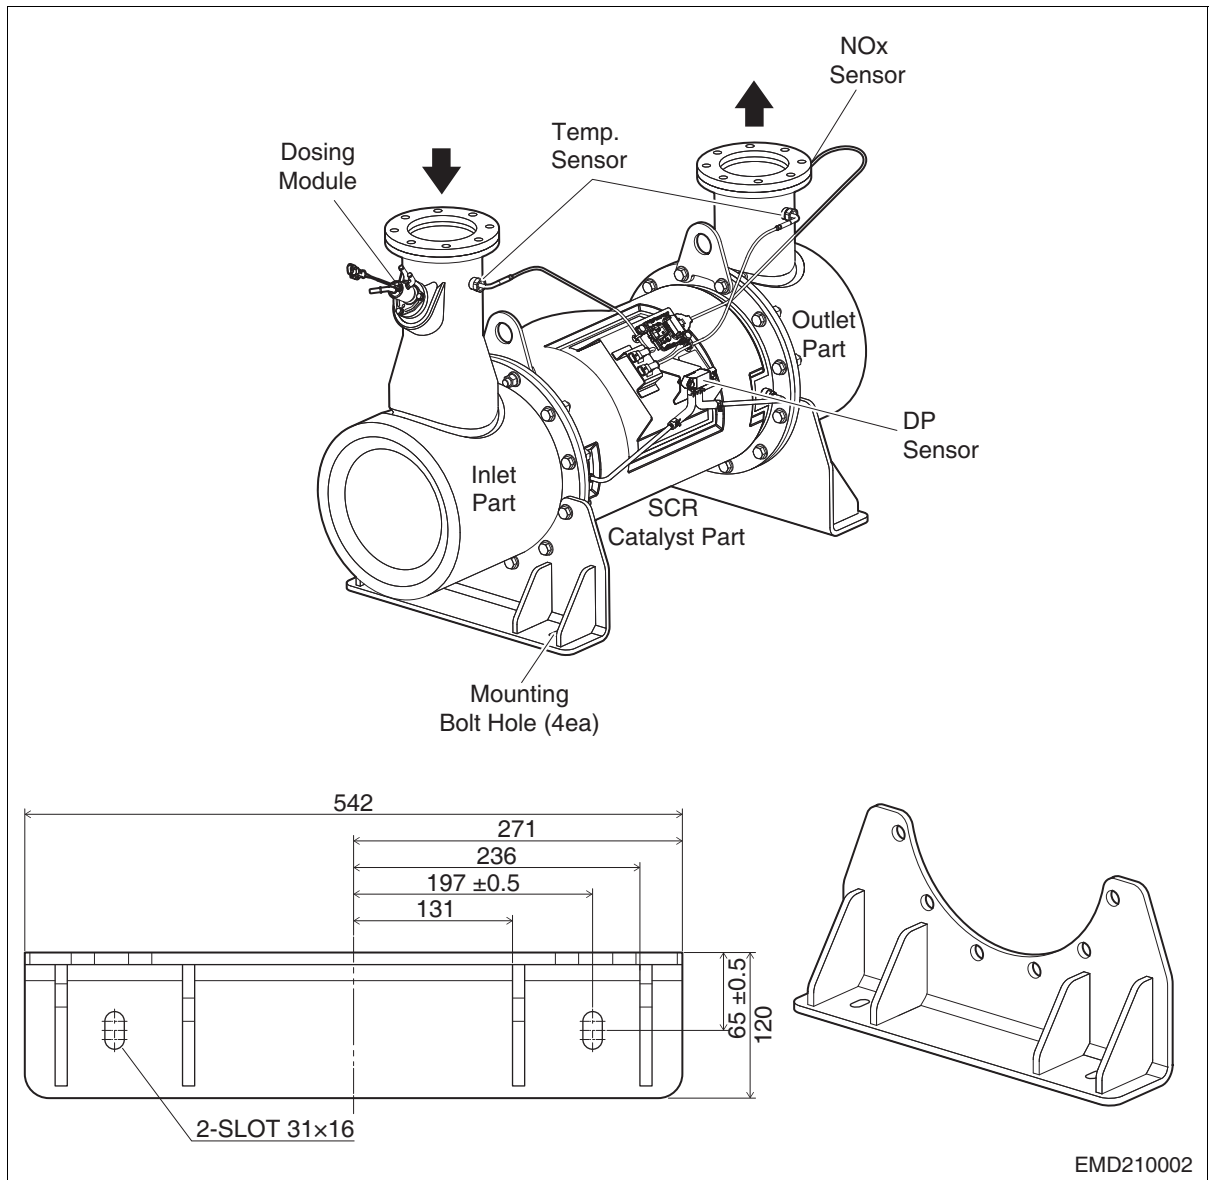

Fig. 1 SCR Muffler (for IMO Tier3) & SCR muffler Bracket
- The SCR muffler should be installed on a strong frame or on the floor, and should be fixed using the bolt holes of the SCR muffler bracket. (Refer to Fig. 1, it should be fixed with M14 bolts at 10 to 12 kgfm.)